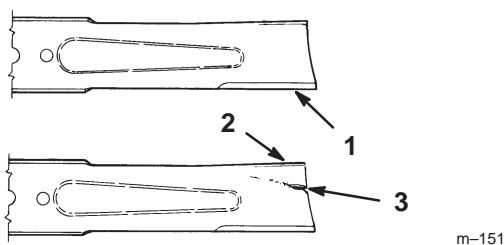

Figure 24
1. Inspect the cutting edges (Fig. 24). If the edges are not sharp or have nicks, remove and sharpen the blades; refer to Sharpening the Blades, page 26.
2. Inspect the blades, especially the curved area (Fig. 24). If you notice any damage, wear, or a slot forming in this area (item 3 in Fig. 24), immediately install a new blade.